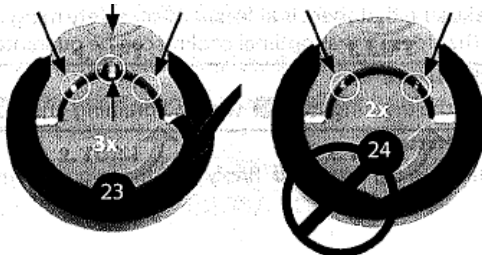

Figure 1
*The sealants with code No. 22 need to be removed off the marking ring from the sealant and pierce the keg by cooler piercing pin. (Show as figure 1)